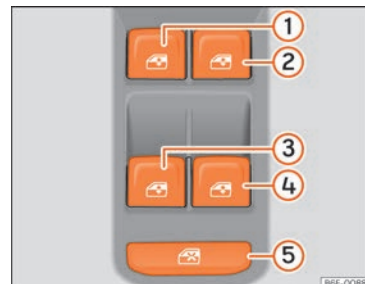

Fig. 96 Detail of the driver's door: window controls.
The safety control  Fig. 96 ⑤ on the driver door can be used to disable the electric window buttons on the rear doors.